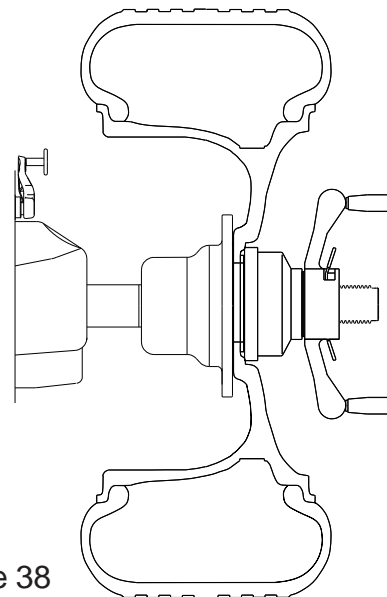

Figure 38
- Mount a balanced wheel/tire to the shaft. See Fig 38.